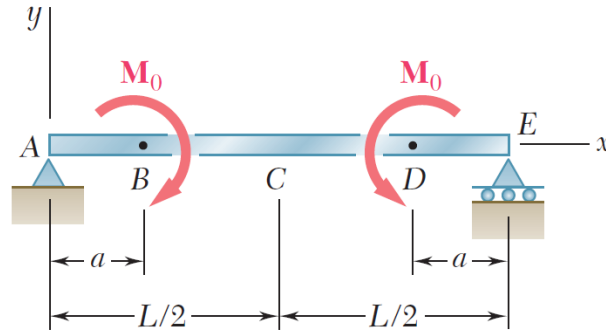

Figure Q4(a)
- (a) Figure Q4(a) show a beam AE which is a W360x101 rolled shape and that $M_0 = 310 \text{ k N.m}$, $L = 2.4 \text{ m}$, $a = 0.5 \text{ m}$, and $E = 200 \text{ GPa}$, determine the equation of elastic curve for portion BD and the deflection at point C.